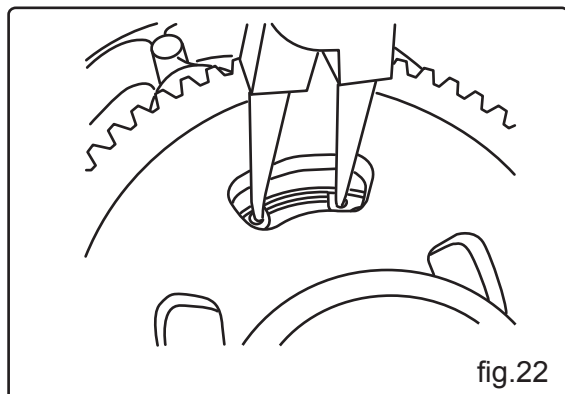

fig.22
G. Remove the stop ring (11) which fixing bearing (10) through the hole of crank gear (101) with the snap ring plier. (fig.22)